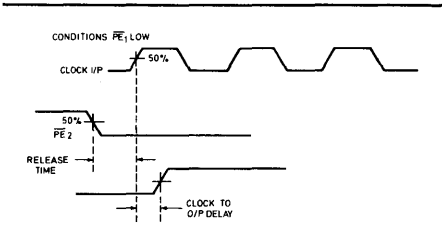

Fig. 4 Release timing diagram
- Release time is defined as the minimum time that can elapse between a H→L transition of a control input and the next L→H clock pulse transition to ensure that the $\bar{\tau}_{11}$ mode is forced by that clock pulse (see Fig. 4).